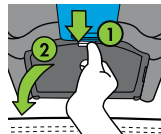

Figure 27
Open UAS Bin Door by pressing and holding top of Lock Tab (1), then rotating UAS Bin Door down (2), as shown in **Figure 27**.